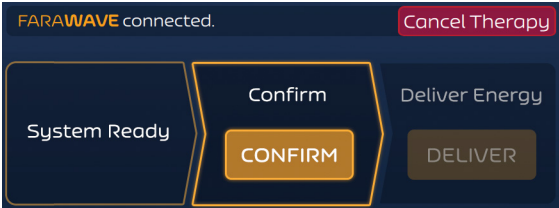

Figure 9. Therapy Screen — Asynchronous Mode — Confirm State
4. Upon completion of initialization, the CONFIRM button will be highlighted as shown in Figure 9.
The FARASTAR PFA Generator will then return to the CONFIRM state as shown in Figure 9.